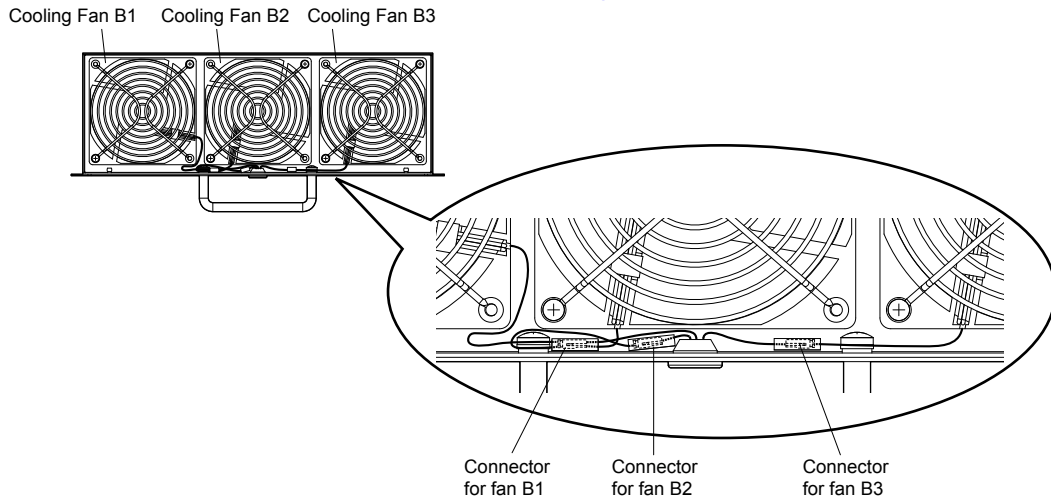

Figure 7.30 Cooling Fan Wiring: 4A0414
2. Place the fan connector covered by the tube as shown in *Figure 7.30*.